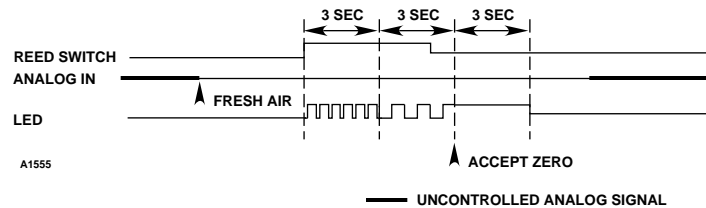

Figure 32—Calibration Algorithm "D"
1. Apply clean air (20.9% oxygen). See Figure 32.